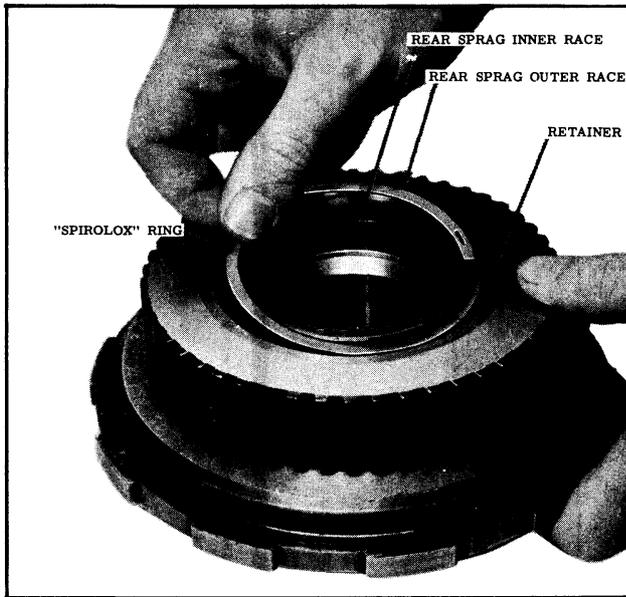

Fig. 3-80 Installing Spirolox Ring
24. Place sprag retainer on sprag and outer race, then install Spirolox ring. (See Fig. 3-80)